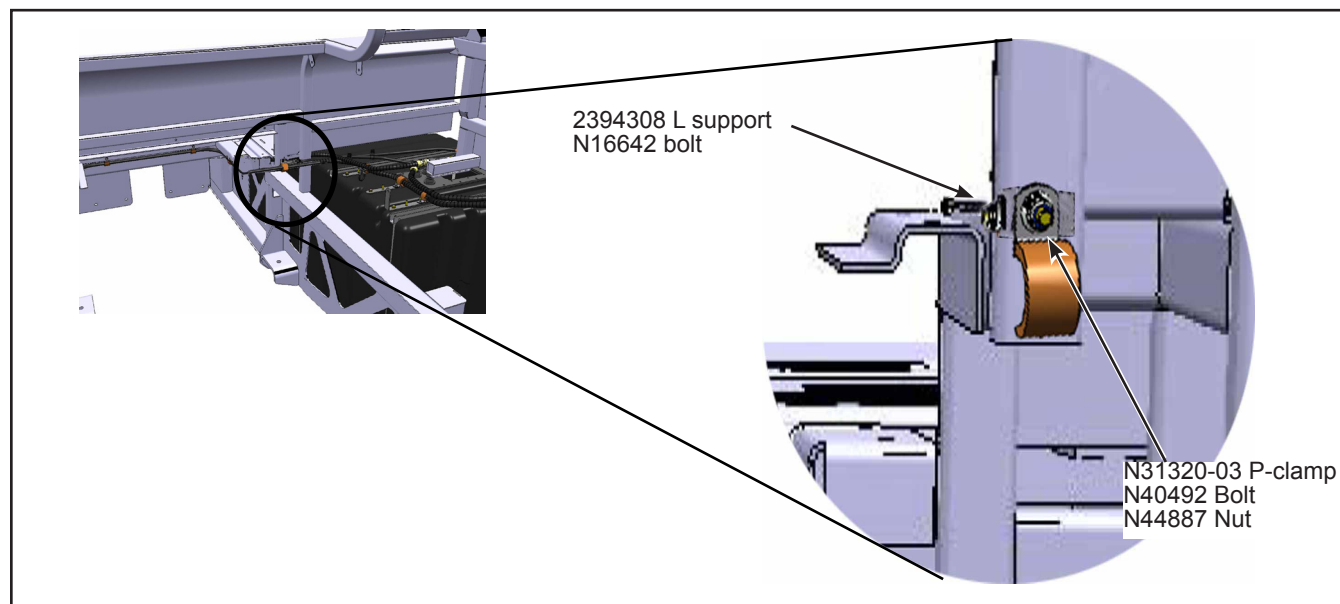

Figure 14 - Affixing the Auxiliary Heater Hose with P-clamp N31320-03
- 1.22. Install 8862346 protective loom onto the two flexible hoses, where P-clamps will be installed further in this procedure. See Figure 14.
- 1.25. Affix the L support 2394308 with bolt N16642. See Figure 14.
- 1.26. Affix the auxiliary heater hoses with a N31320-03 P-clamp, N40492 bolt and N44887 nut. See Figure 14.